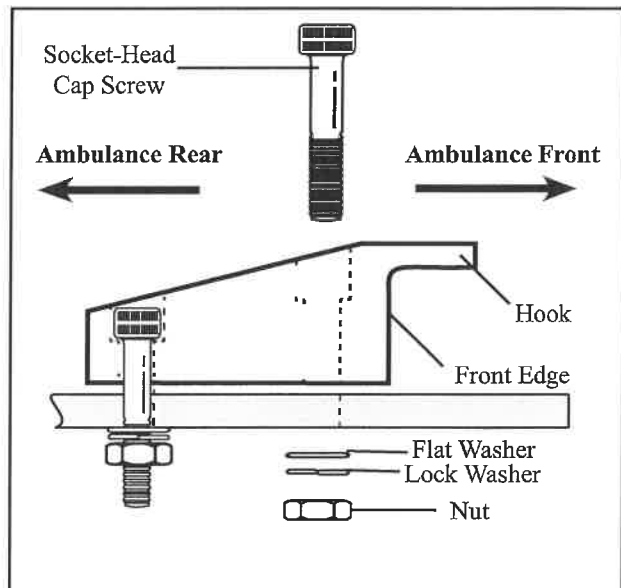

Figure 5 - Installing the Safety Hook
2. Drill holes for the socket-head cap screws and attach the safety hook to the floor (Figure 5).